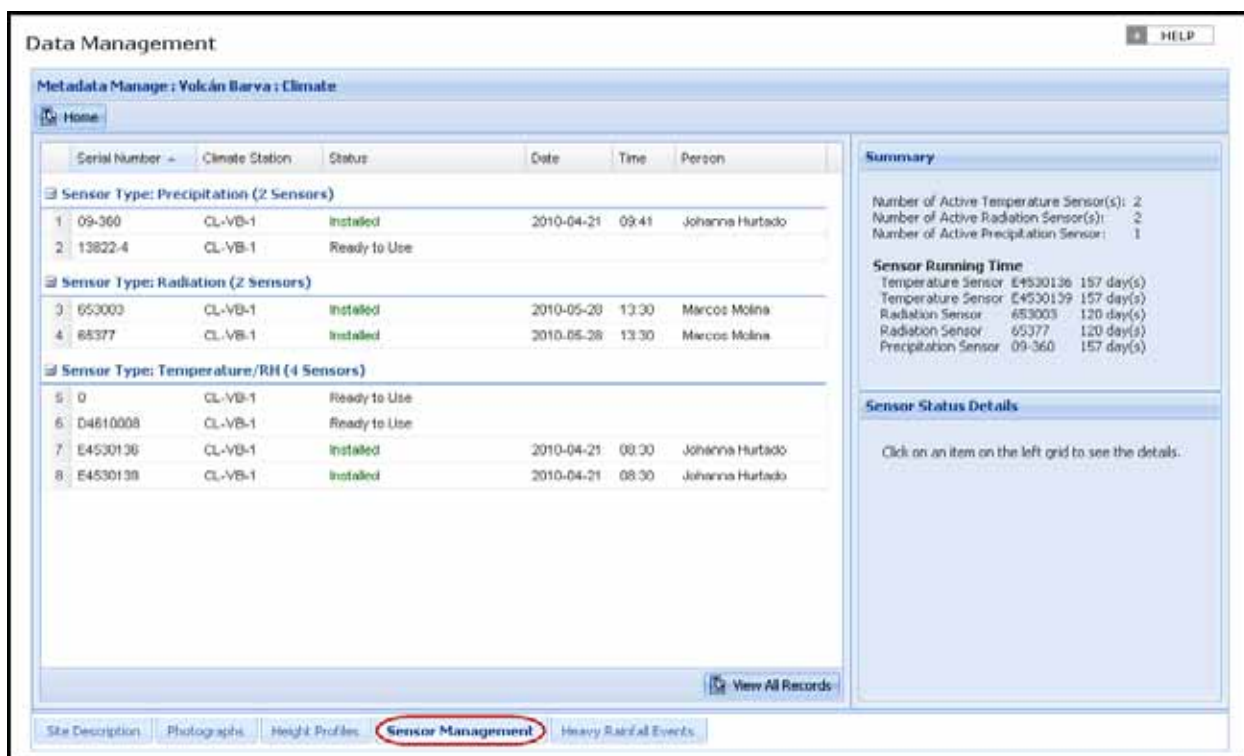

Figure 25. Screenshot of the "Sensor Management" home screen.
- f) Select the **Sensor Management** tab from the bottom of the page (see Figure 25 below) and **double-click** in the "Status" column next to the sensor that is being calibrated (it should say "Installed").